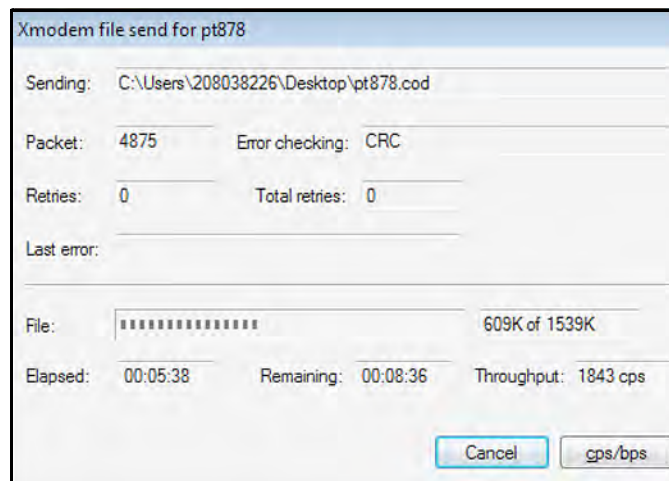

Figure 16: PT878 XModem File Send
4. In *HyperTerminal*, select the *Transfer\Send File* option and select the *XModem* protocol. Browse for the desired firmware file and select **Send** (see *Figure 16* below).